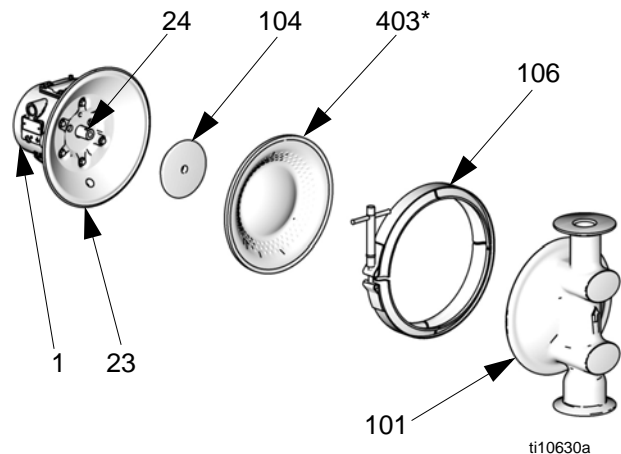

FIG. 12
3. Remove the clamps (106) holding the fluid covers (101) to the air covers (23). Pull the fluid covers (101) off the pump. See FIG. 12.
5. Diaphragms are assembled handtight. To loosen, grip both diaphragms securely around the outer edge and rotate counterclockwise. One diaphragm assembly will come free and the other will remain attached to the shaft. Remove the freed diaphragm (403) and air side plate (104).
6. Pull the opposite diaphragm assembly and shaft (24) out of the center housing (1). Hold the shaft flats with a 19 mm open end wrench and remove the diaphragm and air side plate from the shaft.
7. Inspect the diaphragm shaft (24) for wear or scratches. If it is damaged, inspect the bearings (19) in place. If the bearings are damaged, refer to page 26.
8. Reach into the center housing (1) with an o-ring pick and hook the u-cup packings (402), then pull them out of the housing. This can be done with the bearings (19) in place.